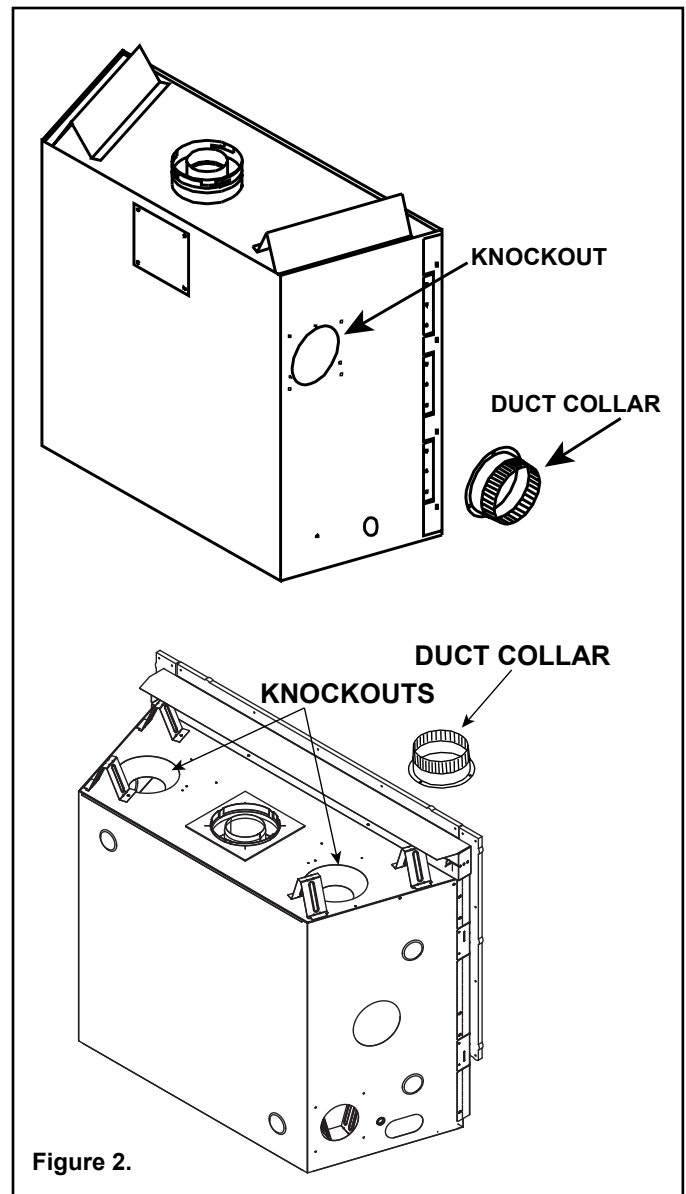

Figure 2.
1. Remove the knockout from the side or top (-B models) of the appliance and discard it. See Figure 2.